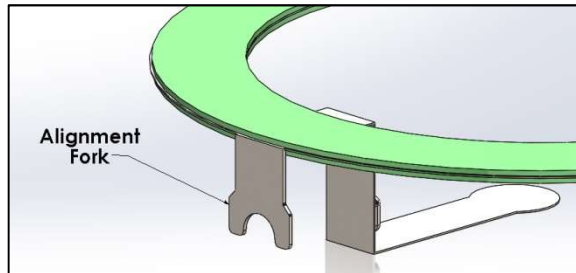

Figure 3 – Z-ALERT Alignment Fork
- h) Tighten the retaining nut until it sits flush with alignment fork (Figure 3). Excessive force should not be used. The retaining nut must only be snug against the fork surface.
- k) Tighten the retaining nut until it sits flush with alignment fork (Figure 3). Excessive force should not be used. The retaining nut must only be snug against the fork surface.